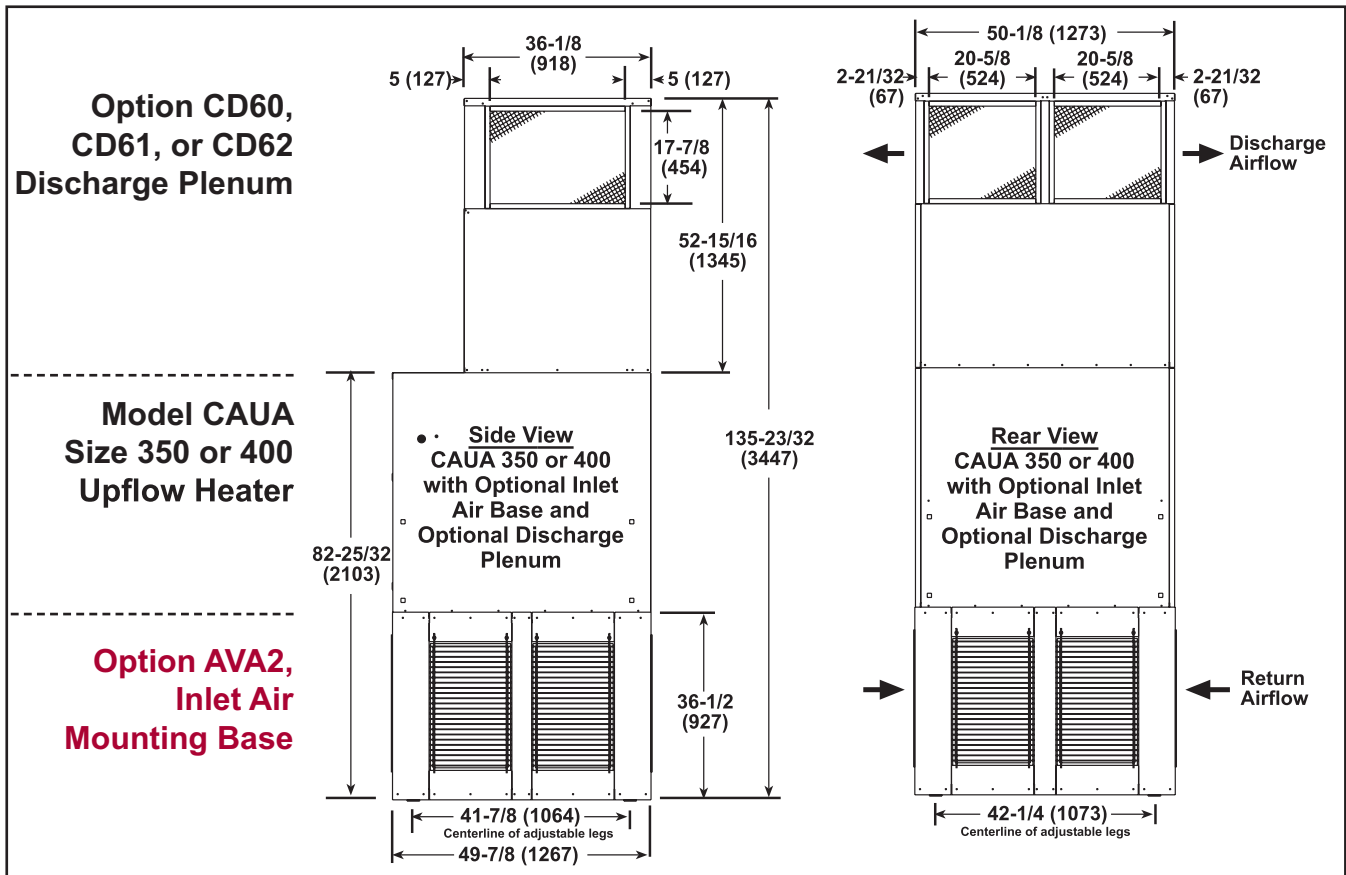

Figure 1. Dimensions
1. Because impeding airflow, either permanently or temporarily, at inlet (or discharge) reduces effectiveness of system, select location where airflow is not obstructed on at least three sides. Refer to Figure 1 for dimensions.